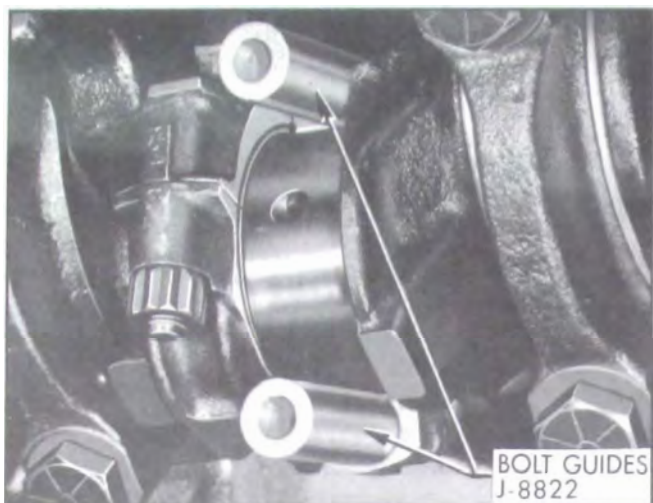

Figure 2-50—Connecting Rod Bolt Guides Installed
4. Remove cap and bearing shell from number 1 connecting rod. Install connecting rod bolt guides on the bolts to hold the upper half of the bearing shell in place. See Figure 2-50.